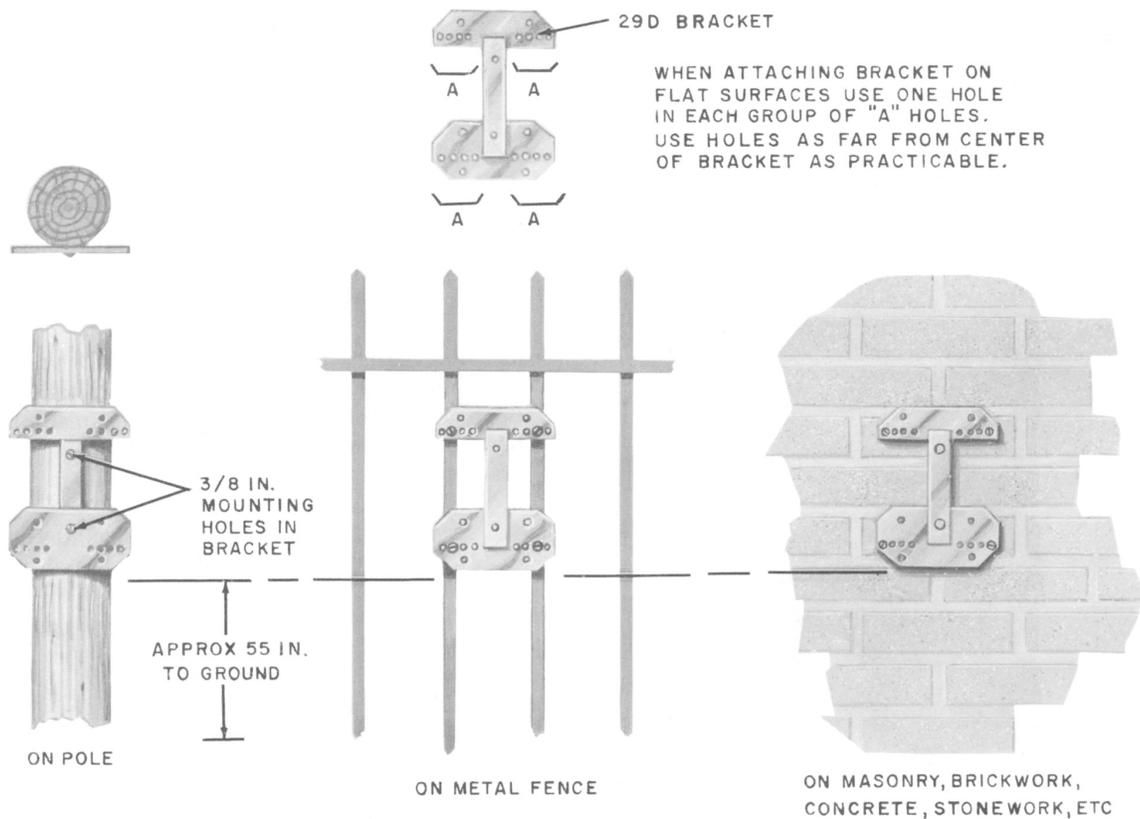

Fig. 3—29D Bracket Mounted on Various Surfaces
- (1) Fasten bracket to flat surface using one fastener (supplied locally) in each bracket arm as far from center as possible (Fig. 3).
- (2) Fasten bracket to narrow or round surface using the 3/8-inch holes centered at top and bottom of bracket.
- (3) Housing has to be mounted on 29D bracket before the telephone set base is installed in the housing (bolts and lockwashers for mounting telephone set to bracket are furnished with 29D brackets).